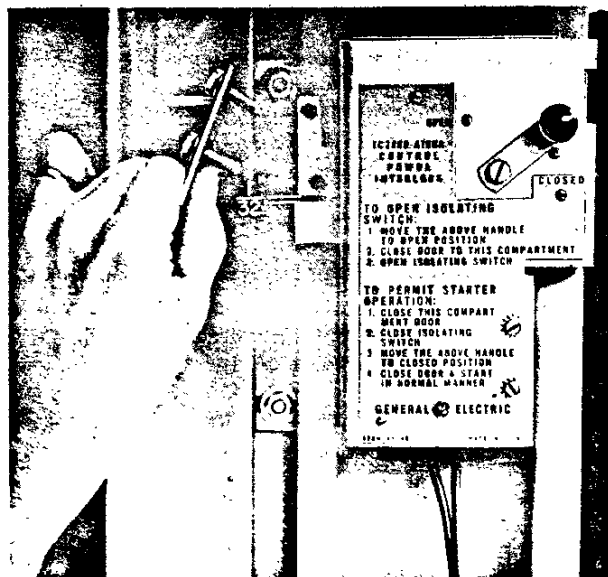

Fig. 13. Control-power interlock adjustment
b. Slowly close the control compartment door and watch the mating of the switch push rod on the door with the cutout on the front of the control-power interlock. See Fig. 13 and 14. When these do not align properly, it is usually an indication that the panel needs leveling. If some adjustment is still required, the push rod may be adjusted up or down.